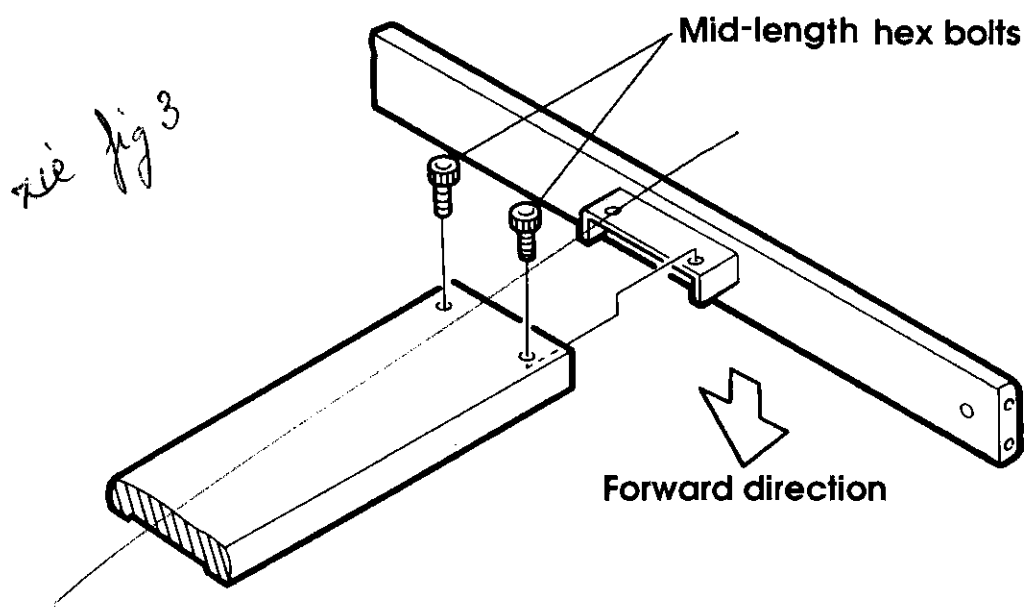

Figure 2.5 Alignment of Side-Stay (A)
Push side-stay (A) into the side-stay mounting blocks in both the left and right supports. The two screw holes on each of the supports and side-stay mounting blocks should be aligned (see Figure 2.5).